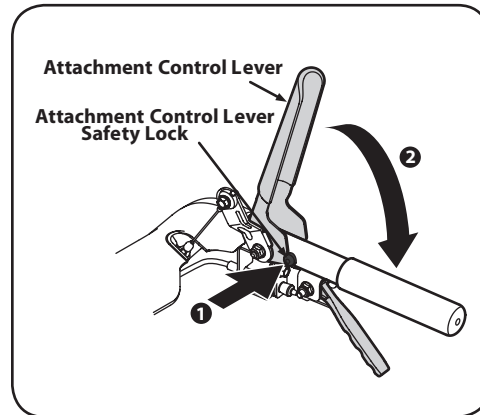

Figure 4-6
1. To engage the augers, push in on the Attachment Control Lever Safety Lock button See 1 in Figure 4-6.
2. Squeeze the Attachment Control Lever completely against the upper handle. See 2 in Figure 4-6.